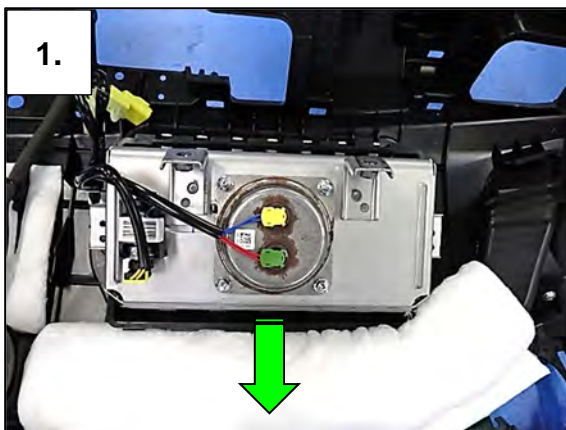
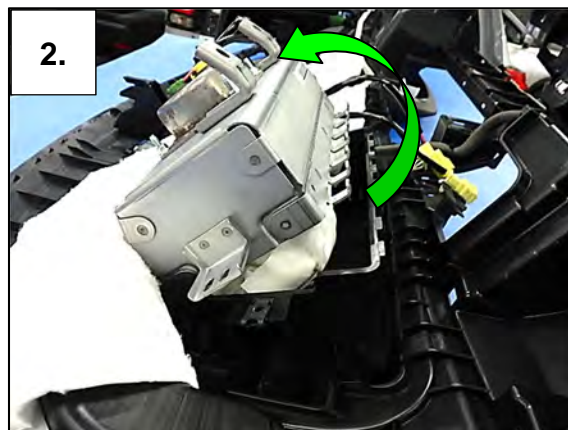

Figure 131
Figure 132
92. Remove the passenger airbag module from the instrument panel in the order shown in Figure 131 and Figure 132.